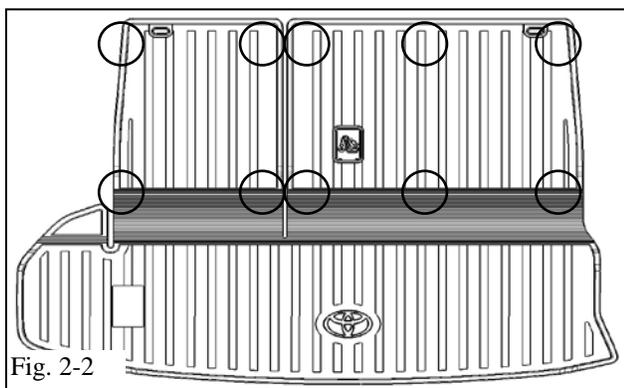

Fig. 2-2
- (f) Rub/massage areas of cargo tray shown to ensure proper velcro attachment to seatback before actuating rear seats up. (Fig. 2-2)